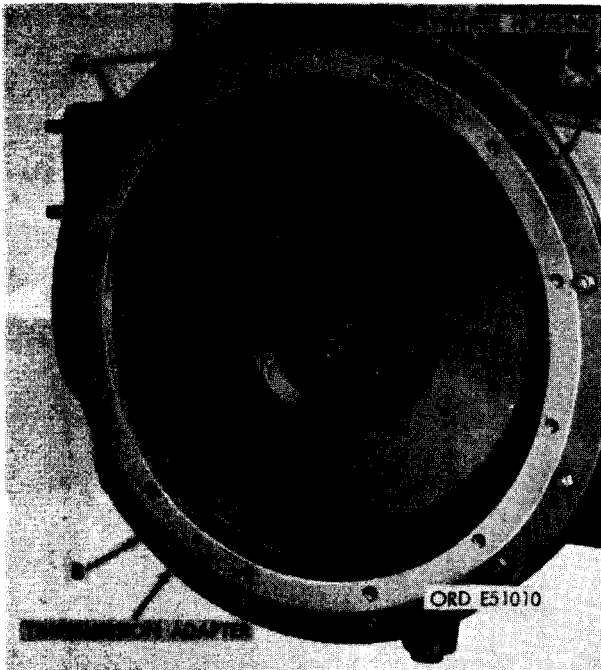

FIGURE 158. REMOVING OR INSTALLING TRANSMISSION ADAPTER.
- (2) Figure 158. (A) Remove thirteen 3/8-inch plain nuts and 3/8-inch lock washers securing transmission adapter to flywheel housing. (B) Remove transmission adapter. (C) Remove and discard transmission adapter gasket.
- (1) Refer to figure 158 and reverse the sequence of instructions to install transmission adapter.
- (2) Remove transmission adapter and flywheel following instructions in figures 158 and 159.
- (5) Refer to figure 158 and reverse the sequence of instructions to install transmission adapter.